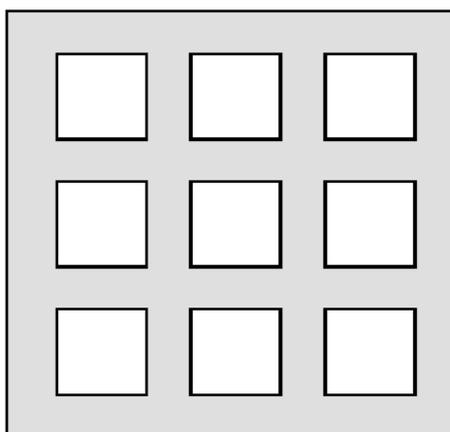

Figure 7: Solder paste application on exposed pad
3. For the PCB thermal pad, solder paste should be printed on the PCB by designing a stencil with an array of smaller openings that sum to 50% of the QFN exposed pad area. Solder paste should be applied through an array of squares (or circles) as shown in Figure 7.